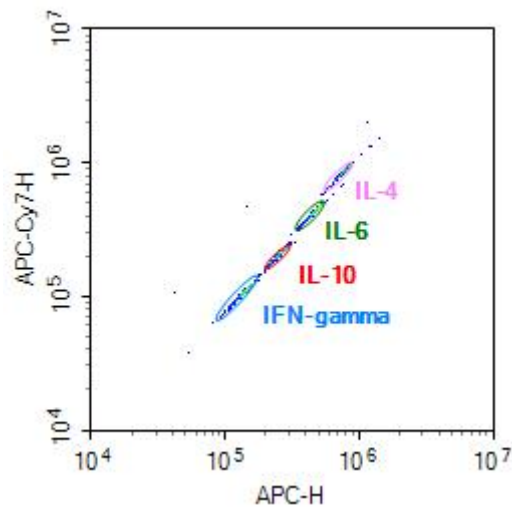

Figure 2
- 3) Create APC and APC-Cy7 dot plot from the "Total beads" parent gate (Figure 2), beads filled with different ratio APC and APC-Cy7 content will be dispersed in respective positions. The plots should all be in log mode. To change the mode, click on the density plot, right click the mouse and select property.
- 3) Meanwhile, adjust the gains in the Parameters (the upper left of the window) for APC and APC-Cy7 channel to make sure all beads are evenly distributed and well separated throughout a prominent area. If the APC and APC-Cy7 fluorescence signal exceeds the maximum collection range of the graph, reduce the gains in the Parameters (the upper left of the window) for APC and APC-Cy7 channel. Adjust the PMT gain of the flow cytometer. From the toolbar, click the Elliptical Gate (Other graphics gate can also be used) and use the mouse to drag the populations to the middle of the dot plot. Gate each cluster of beads and name the corresponding target (Figure 2).